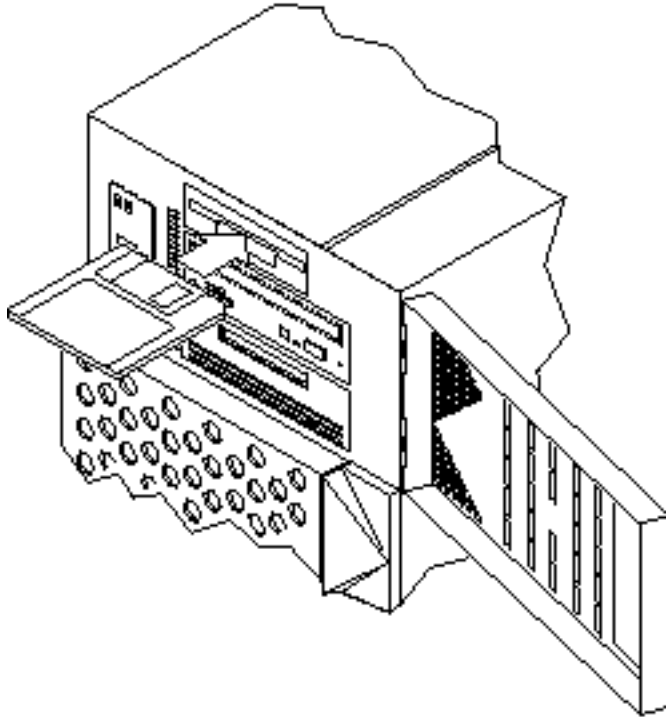

Figure 1-11 Inserting the Configuration Diskette
- a. Insert a blank diskette into the diskette drive at the front of the Netra 150 server (Figure 1-11).